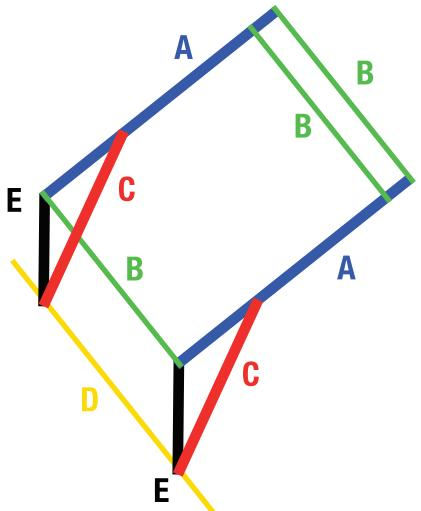

Figure 10-6. The various pieces needed to construct the frame
Figure 10-6 shows the ten main pieces of the frame, which are grouped together by color; pieces that are the same color/letter should be cut the same length.
The two main frame rails (A) are the long pieces that span from the rear of the bot to the front. The three cross-brackets (B) are mounted to the two main frame rails (A) on both ends. The front cross-brackets are then mounted to the front caster wheels. The rear frame risers (E) keep the main frame rails level even though the axle (D) is about 12 inches below the top of the frame; these should be measured to fit your frame. The two support braces (C) keep the frame risers securely in place. Figure 10-7 shows a picture of the assembled Lawn-bot, to physically place the parts from the illustration in Figure 10-6.